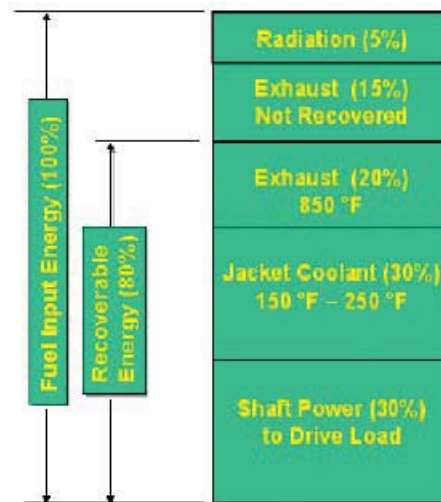

Figure A1-1 Energy Distributions for a Typical Reciprocating Engine
- **Distribution of energy** for a typical engine is shown in *Figure A1-1*